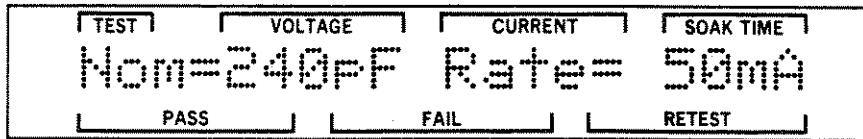

Figure 5-12. Nominal Capacitance and Charge Rate Screen
- STEP 15. Press the DOWN pushbutton once to display the Nominal Capacitance and Charge Rate screen. Figure 5-12 is an illustration of this screen.